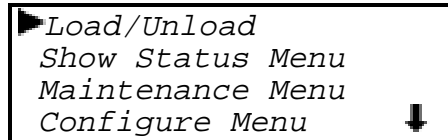

Figure 2-17 Main Menu
2. At the Default Screen, press the **Enter** button. The display will show the Main Menu, as in Figure 2-17.